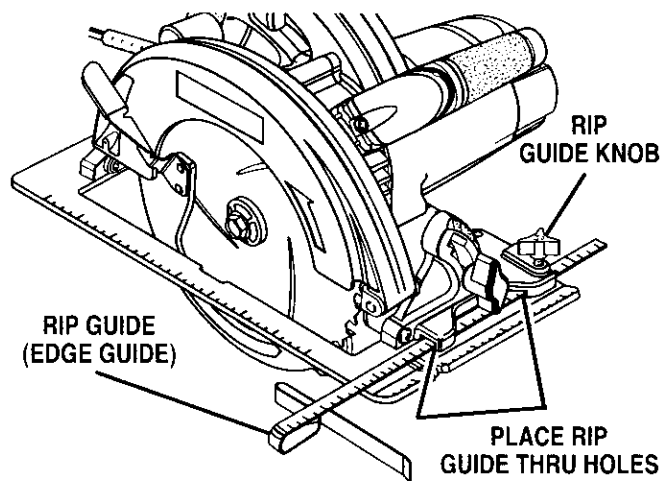

Fig. 22
C-clamps, firmly clamp a straight edge to the workpiece and guide the saw along the straight edge to achieve a straight rip cut. Do not bind the blade in the cut. If using the rip guide provided, see the following instructions and Figure 22.
■ Place rip guide through holes in saw base as shown in Figure 22.